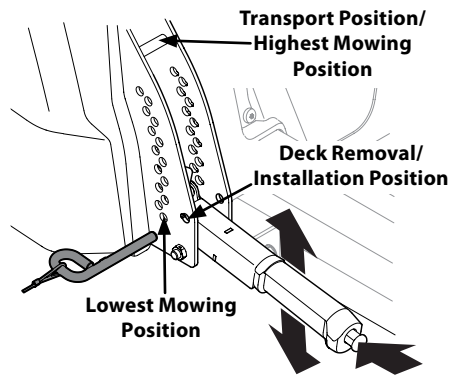

Figure 4-11
- Using the deck lift handle, raise the deck to the position that provides the most horizontal run of the belt between the deck idler pulleys and the PTO pulley on the bottom of the engine. See Figure 4-11.
- Lower the deck into the deck removal/installation position using the deck lift handle. See Figure 4-11.
1. Place the deck lift handle in the highest mowing position. See Figure 4-11.